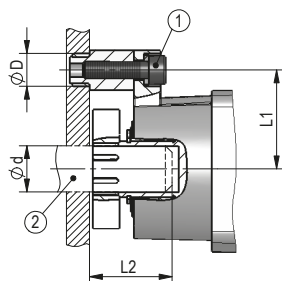
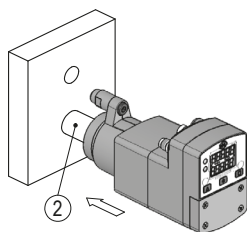
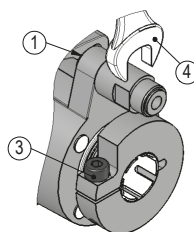
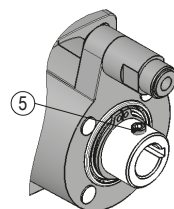

Fig. 1: Mounting dimensions
Fig. 2: Mounting
Fig. 3: Fastening torque for screws
Fig. 4: Shaft with feather key groove
- ▶ Ensure a low shaft and angle offset between shaft and accommodation bore by applying appropriate manufacturing methods (see Fig. 1 + Tab. 1).
If torque pin (see Fig. 3) is mounted improperly, this will lead to a destruction of the casing.
Preparing mounting (Fig. 1, Fig. 2, Fig. 3):
Mounting (Fig. 1, Fig. 2, Fig. 3, Fig. 4):